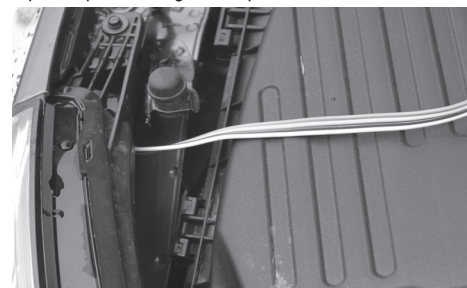

Figure 9
13. From inside engine compartment route fish tape down through wheel well shown in Figure 9. Secure 4-flat to fish tape and pull into engine compartment.